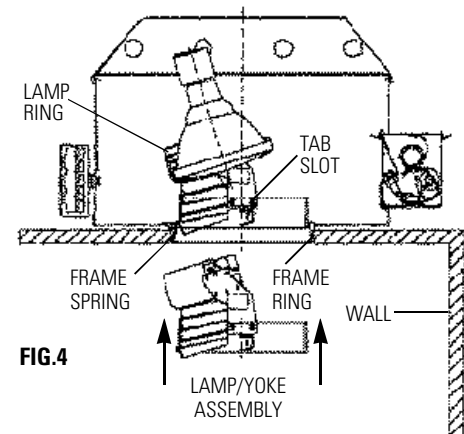

FIG. 4
Insert LAMP/YOKE ASSEMBLY through aperture opening and push LAMP/YOKE ASSEMBLY up against FRAME SPRINGS until flush with top of FRAME RING. (Fig. 4)
2. **HORIZONTAL ANGLE ADJUSTMENT/LOCK (Fig. 4)**